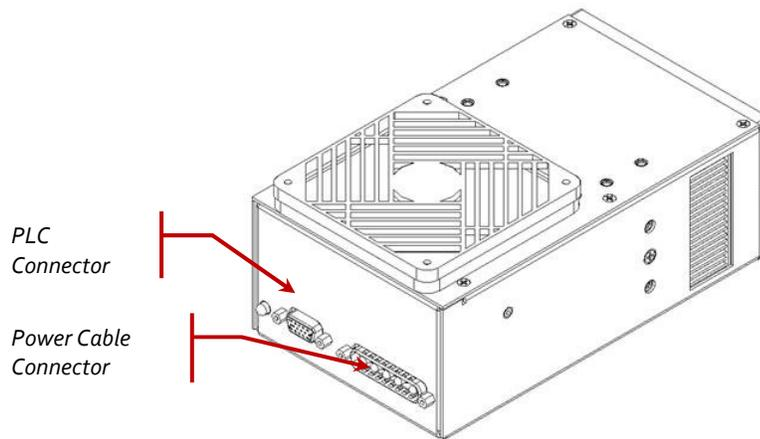

Figure 1 UV LED Head Connection Ports
3. Attach the male end of the power cable to the power supply unit, and connect the female end of the power cable to the UV LED Head per Figure 1
4. Attach the female end of the PLC cable to the PLC I/O connector on the PLC2000 (see Figure 2) and the male end of the PLC cable to the UV LED Head (see Figure 1).